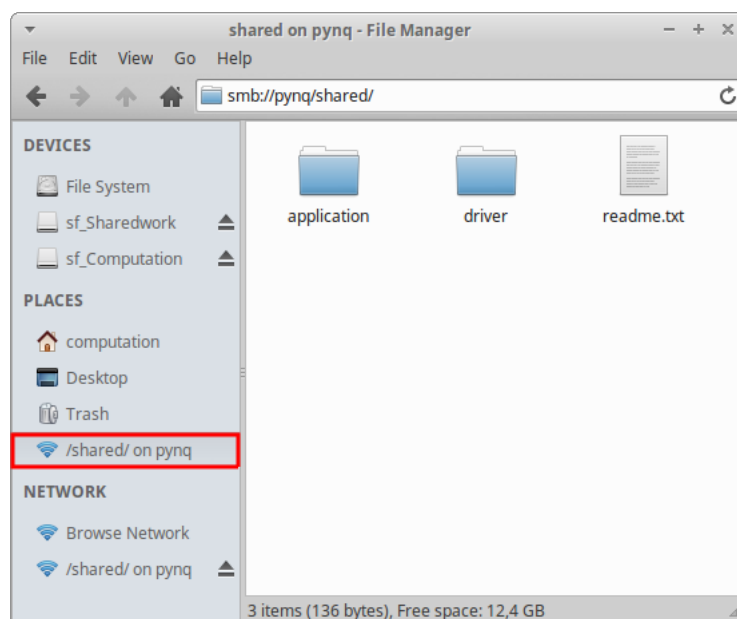

Figure 2: The shared folder of the PYNQ board.
**Task 3.** Create a folder `driver` in the Pynq shared folder (`/shared/` on `pynq` in the File Manager of the VM (Fig. 2)). Download the following files from OnCourse and copy them into this folder: